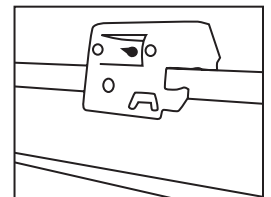
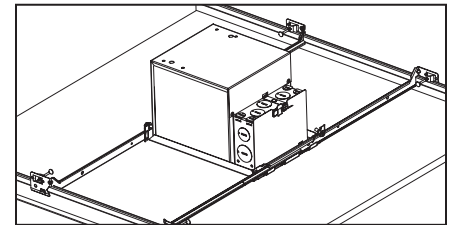

Figure 7
Figure 6
**Step 3.** Place fixture into position and snap bar hanger foot with integral T-bar notch onto T-bars (Fig. 6). Additional holes are provided for securing with wire or screws if desired (Fig. 7).